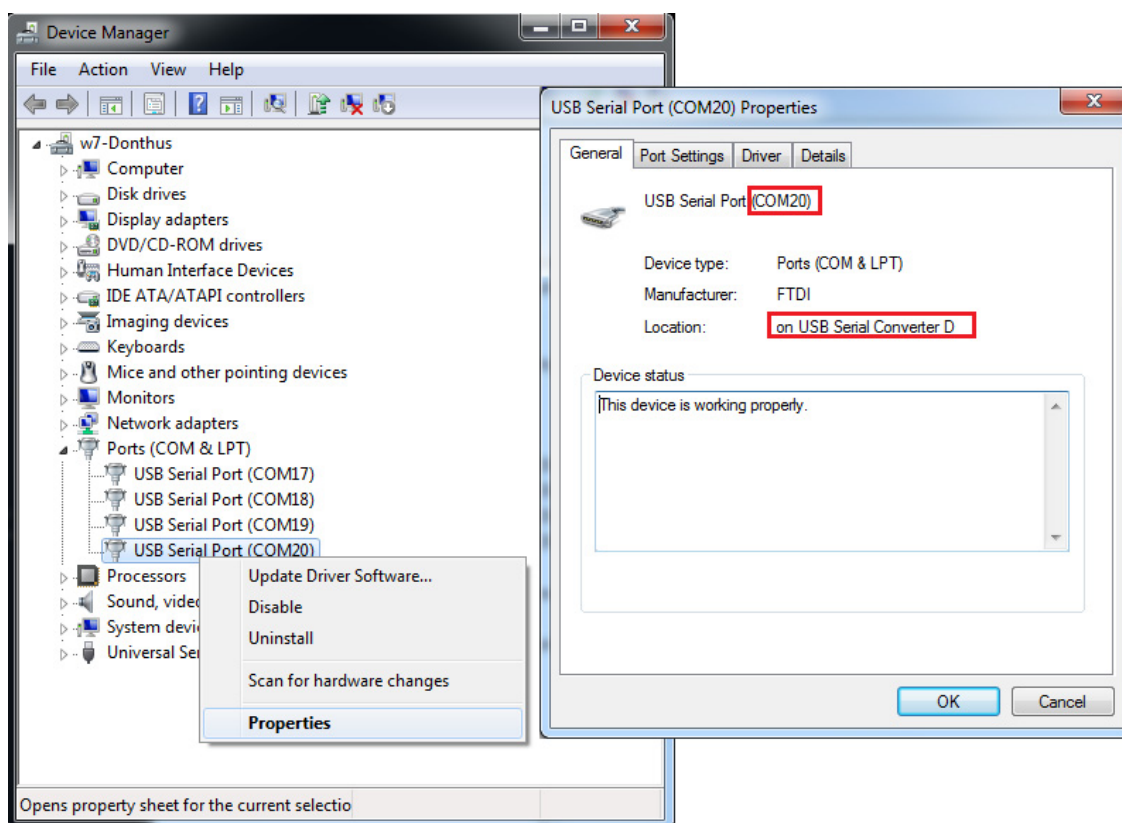

Figure 8 • USB to UART Bridge Drivers
1. Connect the FlashPro4 programmer to the J5 connector of the SmartFusion2 Security Evaluation Kit. Connect the J18 connector provided on the SmartFusion2 Security Evaluation Kit to the host PC using the USB mini-B cable. Ensure that the USB to UART bridge drivers are automatically detected by verifying the Device Manager, as shown in Figure 8.
Note: Copy the COM port number for serial port configuration. Ensure that the COM port location is specified as **on USB Serial Converter D**, as shown in Figure 8.